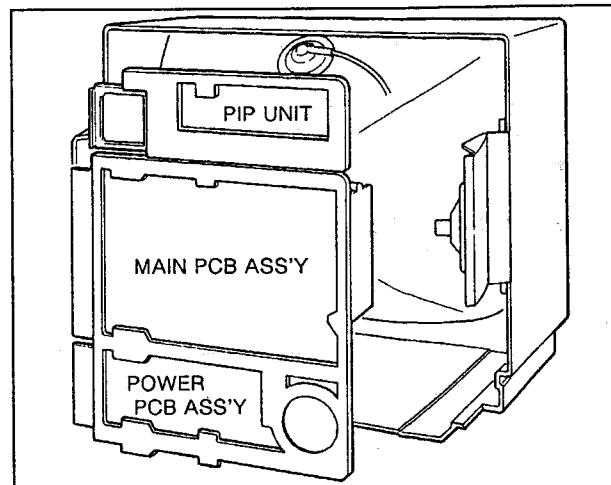

Fig. 6
1. Stand the set on the PIP unit side as indicated in Fig. 6.